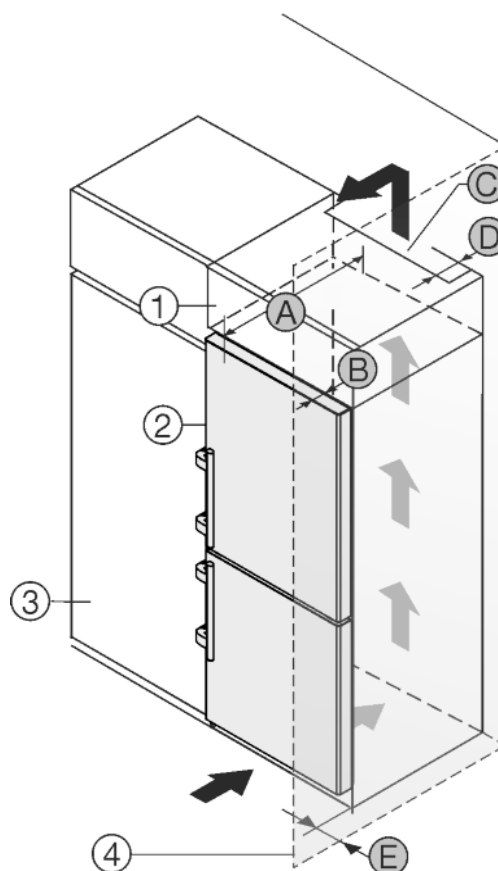

*Fig. 25*
- ▶ Slide on the external cover. *Fig. 25 (1)*
- ▶ Close the upper door. *Fig. 25 (2)*